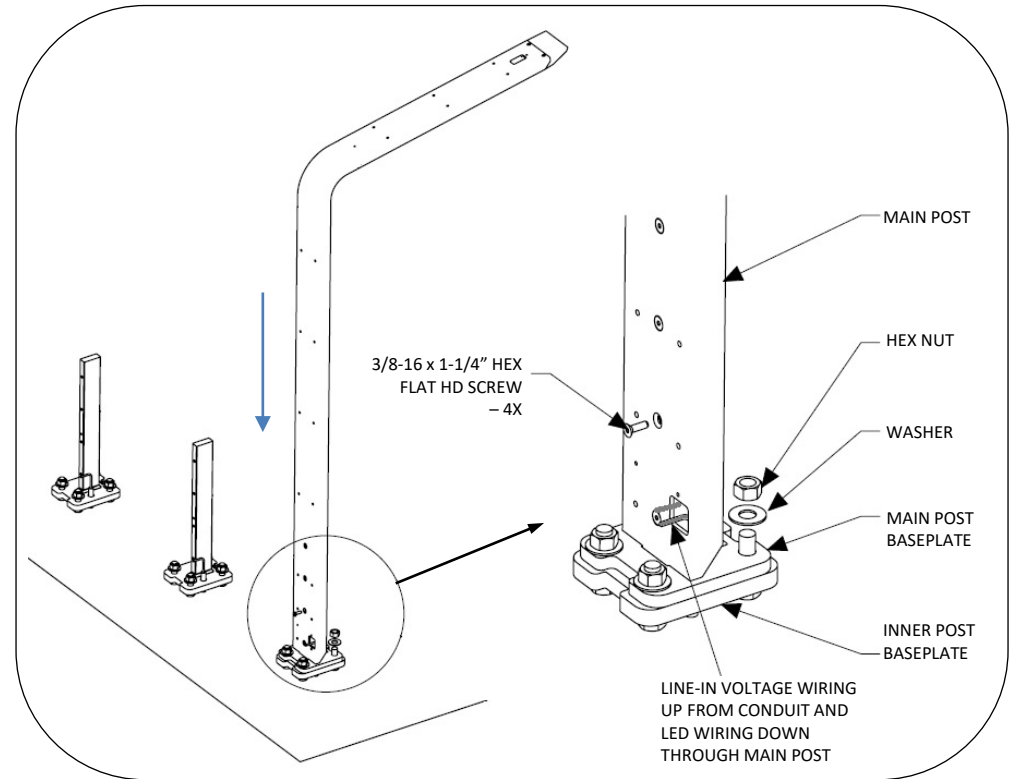

FIG. 7 – INSTALL MAIN POSTS
7. Install main post over inner post, see Fig. 7. For units with lights: End cap on post is prewired and connected to main post at the factory. Wiring is installed and excess wire is secured to main post for transit. Do not remove shrink wrap until after install of main post. After main post is in position, remove shrink wrap from wiring and pull line-in wiring out through access hole on main post. Excess wire may be shortened if needed, then make wiring connections and place wires back inside of main post.
8. Attach main post to inner post, see Fig. 7.
9. Install top washers and nuts, see Fig. 7. Level unit and adjust nuts as necessary. If install is a multi-unit shelter, level across all base plates. Do not fully tighten hardware until entire shelter is assembled.